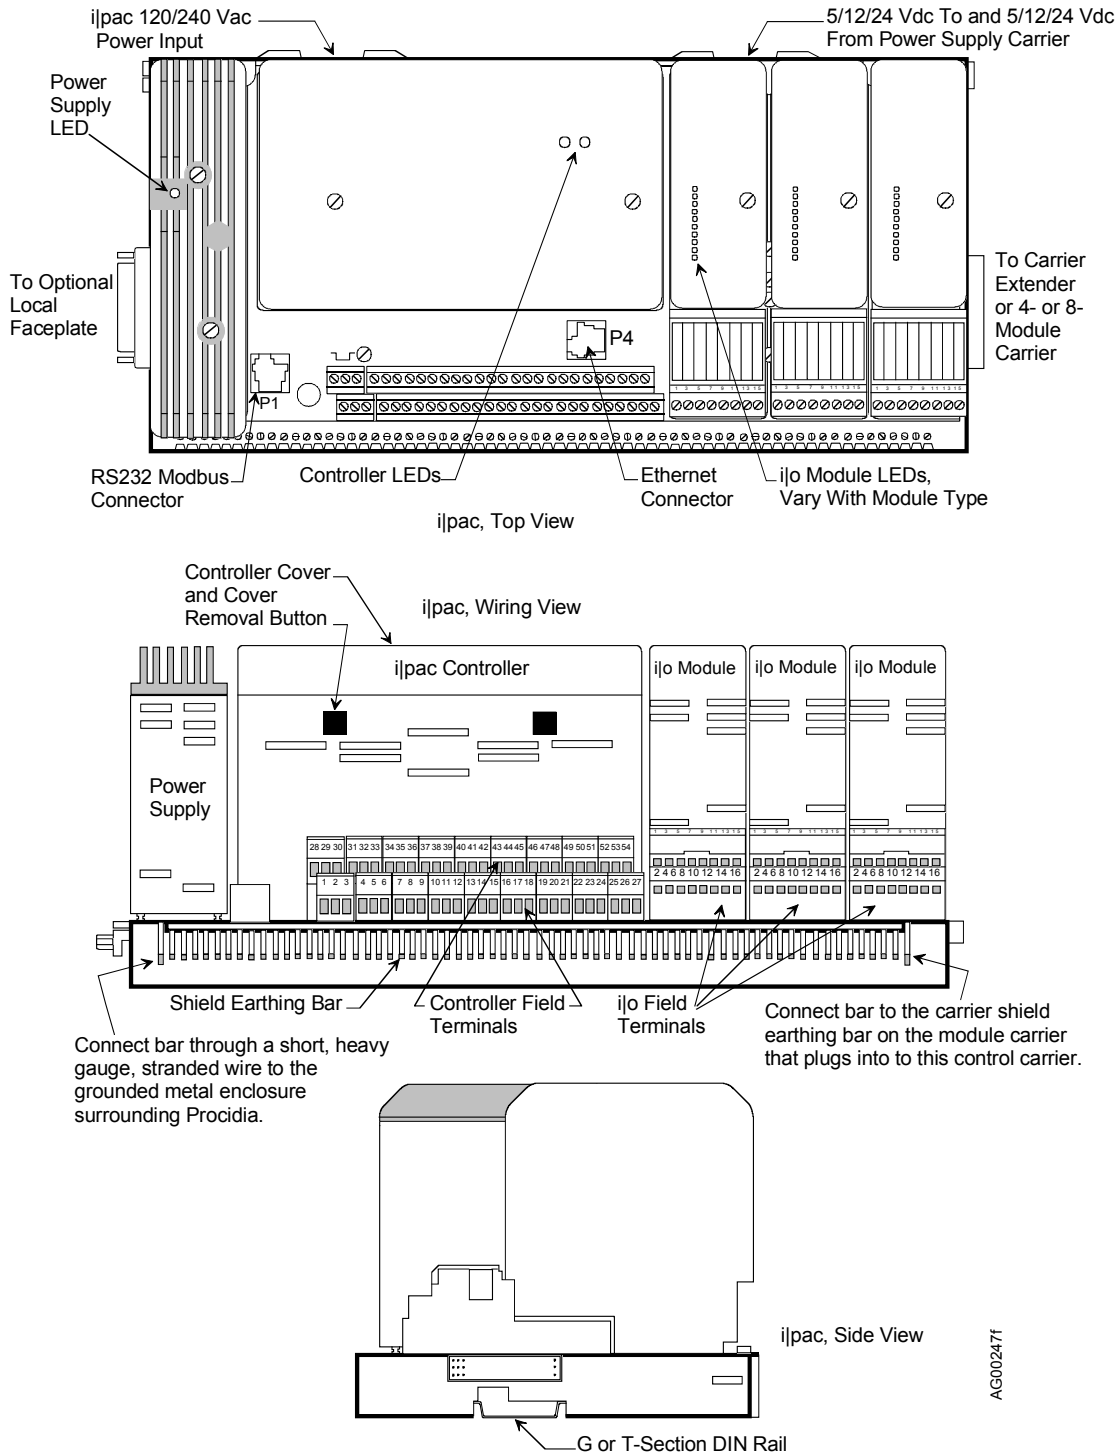

FIGURE 1 Assembled Control Carrier
2. Find the control module assembly (Controller) shown in Figure 1 and two 5" (127 mm) screws.